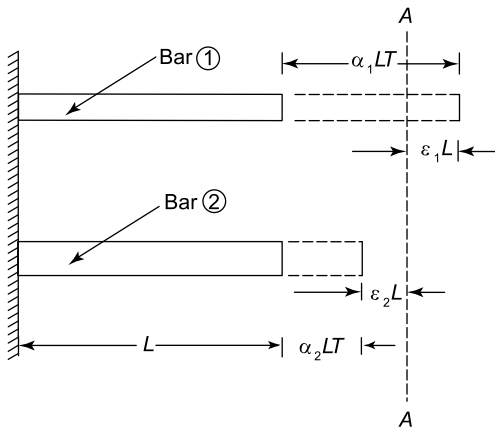

Figure 3.13 'Deflections' of compound bar
There are two unknown forces in these bars, namely F_1 and F_2 ; therefore, two simultaneous equations will be required to determine these unknown forces. The first equation can be obtained by considering the compatibility (i.e. 'deflections') of the bars, with the aid of Figure 3.13.
In practice, however, the final resting position of the compound bar will be somewhere in between these two positions (i.e. at the position A-A in Figure 3.13). To achieve this, it will be necessary for bar (2) to be pulled
From considerations of compatibility ('deflection') in Figure 3.13,